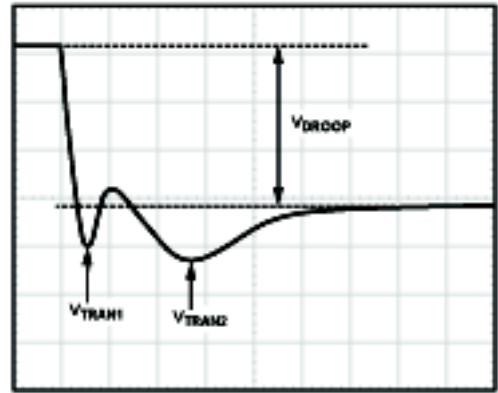

Figure 28. Transient Setting Waveform, Load Step
1. With the dynamic load set at its maximum step size, expand the scope time scale to 2  $\mu\text{s}/\text{div}$  to 5  $\mu\text{s}/\text{div}$ . This results in a waveform that may have two overshoots and one minor undershoot before achieving the final desired value after  $V_{DROOP}$  (see Figure 28).